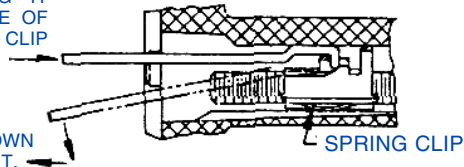

FIGURE 2
3. Snap altered Wedge into Feed Block as shown (see Figure 2).